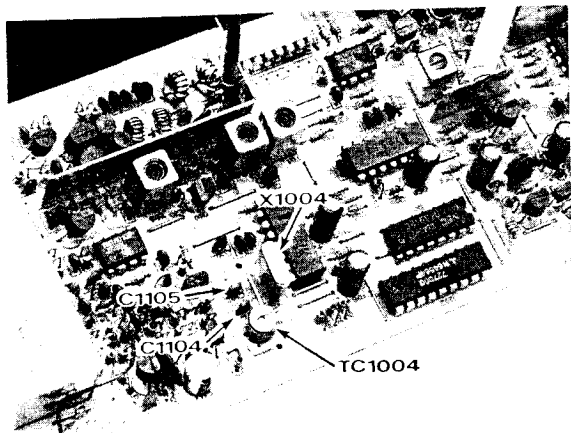

Figure 2
- (2) Unsolder and remove trimmer TC1004, crystal X1004 and capacitors C1104 and C1105 (Figure 2). Use a vacuum solder remover or solder wick to clean away solder from around the holes under the TXCO mounting location.